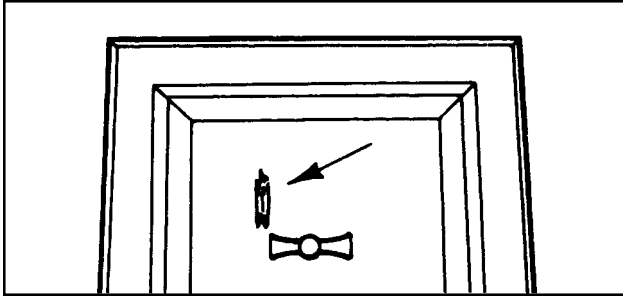
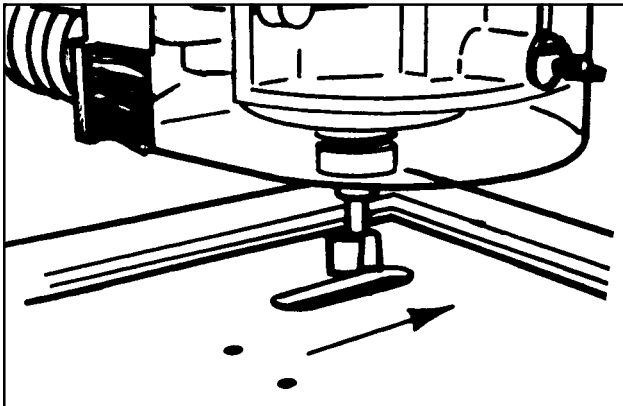

Figure 34. A damaged area on a cabinet door.
Figure 35. Rout a slot to remove the damaged area.
3. Rout out a slot. To repair damage such as that shown in Figure 34, rout out a rounded-end slot that's longer and wider than the damaged area (See Fig. 35). Set your depth-of-cut to be only as deep as the damaged wood. If you're repairing a surface defect on a veneer, cut only to the depth of the veneer.